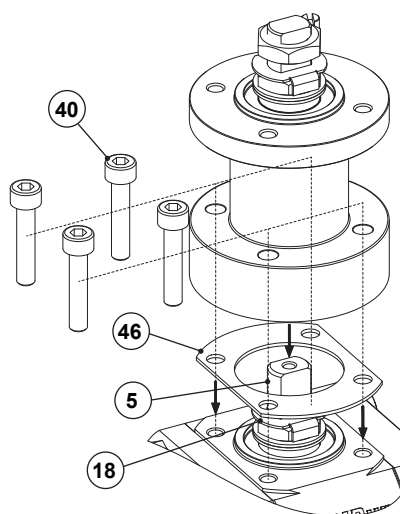

Fig. 3 - SEF stem extension assembly.
8. Remove the handle fixing bolt (22) and washer (22A) or handle fixing nut (17A), handle assembly (14, 14A, 14B, 15), handle stopper (21) and locking flange (21A) if installed.
9. Place the SEF unit together with the gasket (46) over the valve stem (5) with the lock washer (18) still in place – see Fig. 3.
10. Tighten the four bolts (40) in a crisscross pattern until the recommended tightening torques are achieved – see section 9.5 – Tightening torques.